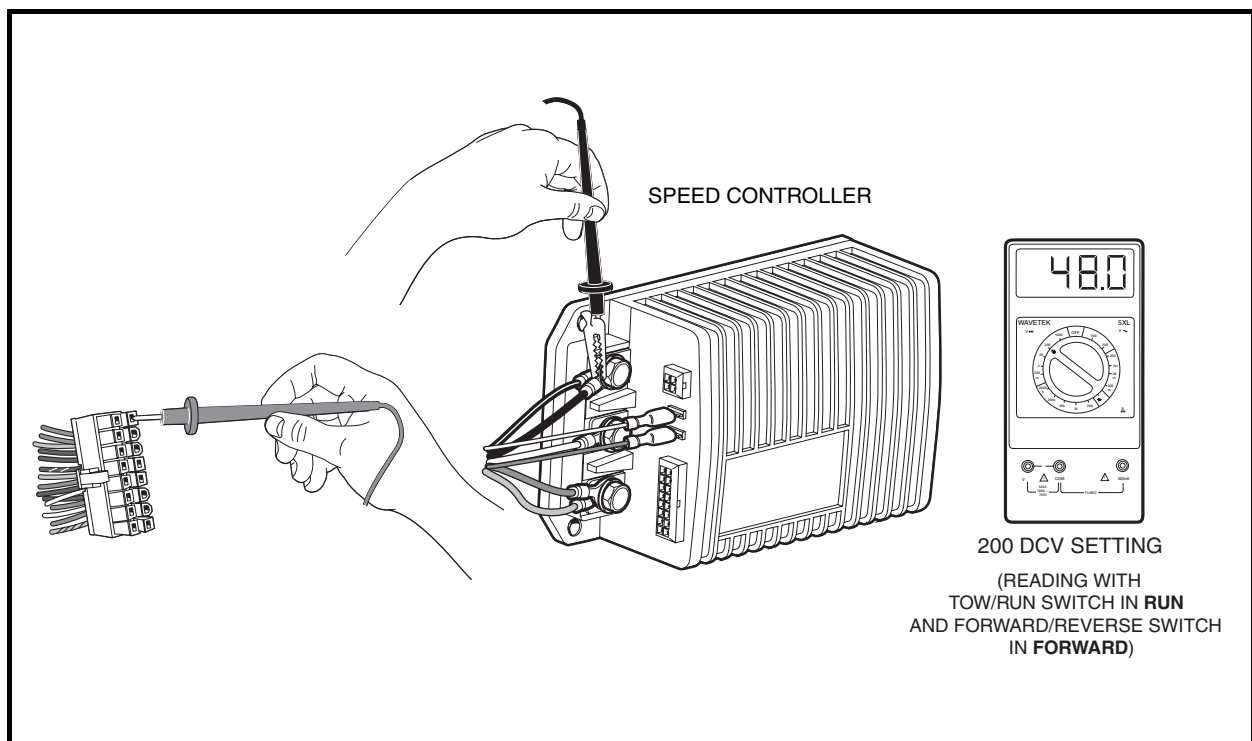

Figure 21-9 Pins 8 and 16 Test
4. Set a multimeter to 200 volts DC, insert the red (+) probe of the multimeter into pin 8 (brown wire) of the 16-pin connector. See following **CAUTION**. Using an alligator clip, connect the black (–) probe to the B– terminal of the speed controller (**Figure 21-9, Page 21-24**).